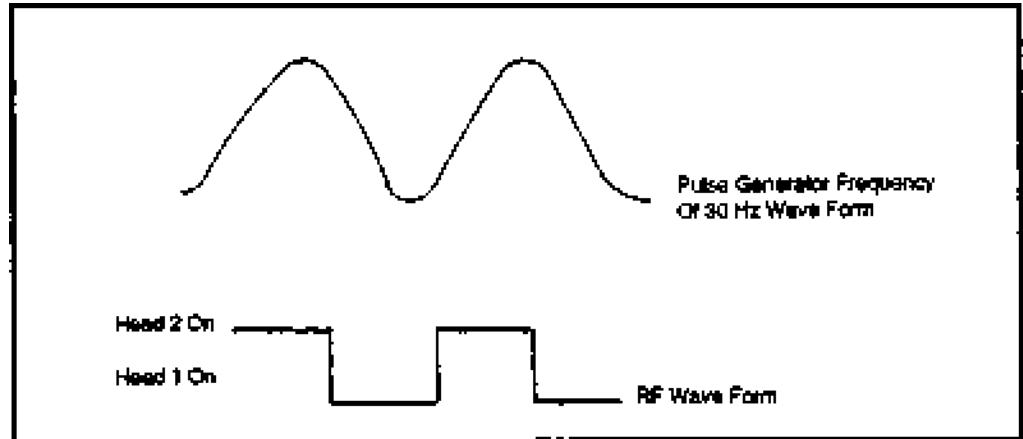

Figure 4: PG pulse waveform
A pulse generator (PG) pulse signal is generated in the flywheel of the cylinder motor relaying the position of one of the two video head tabs. It is produced by a magnet and pickup coil with each revolution. The PG pulses create another waveform (Figure 4) called the RF switch pulse. To create the RF switch pulse (30 Hz), the positive pulses are used to flip-flop the video head during playback.